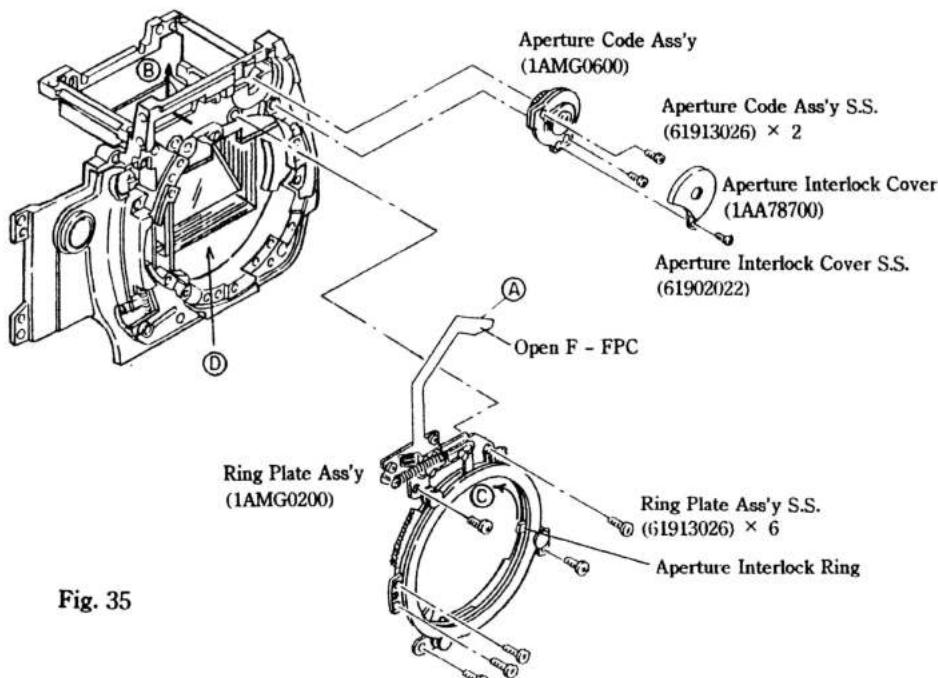

Fig. 35
- 3) Move the Aperture Interlock Ring in the direction of the arrow **(C)** and hold it there. (See Fig. 35)